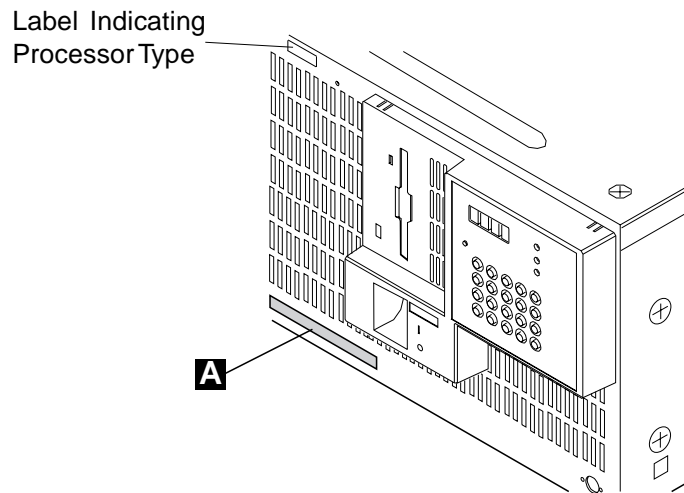
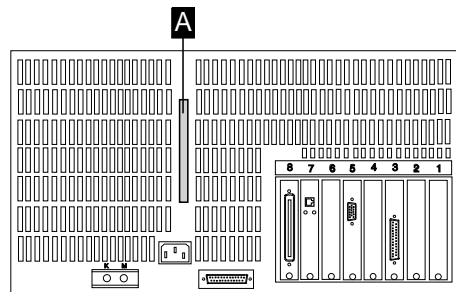

Figure 1-16. Installing Label on the Front Side of the Network Node Processor (3172)
Figure 1-17. Installing Label on the Rear Side of the Network Node Processor (3172)
2. \_\_\_\_ Using label (PN 80G0680), **identify** your Network Node Processor-A or Network Node Processor-B by sticking the appropriate label **A** on the front and rear side of the unit (refer to Figure 1-16 and Figure 1-17).